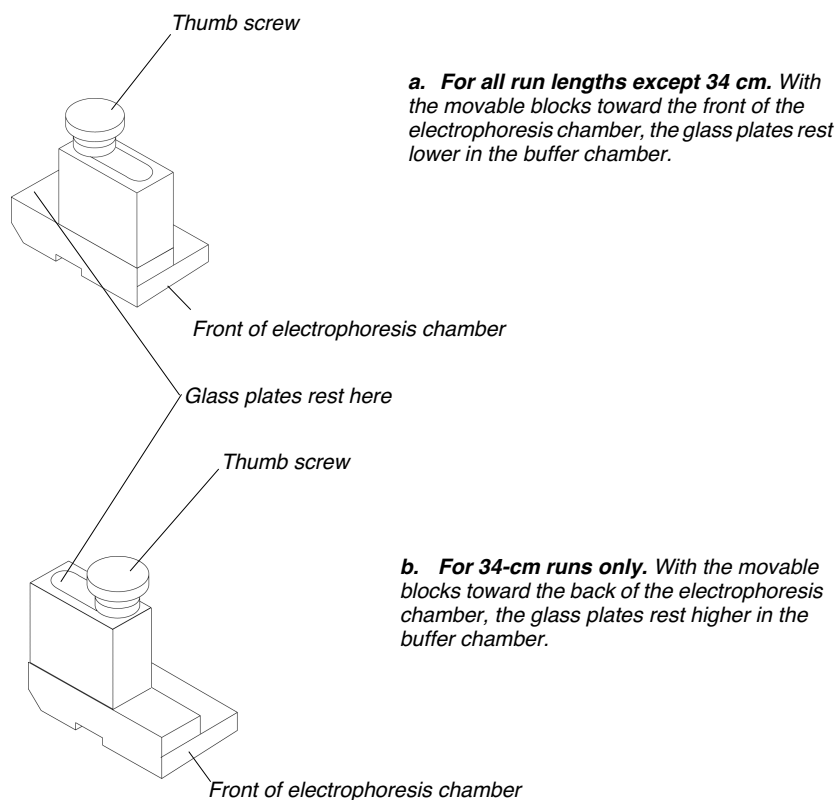

Figure 3-6. Adjustable gel plate rests
4. Adjust the gel plate rests in the lower buffer chamber, if necessary (see Figure 3-6). The gel plate rests are located in the bottom of the buffer chamber and serve to elevate the glass plates. The 34-cm plates must sit higher in the buffer chamber to rest in the correct position. All other plates rest in the lower position.
Each gel plate rest consists of several parts, a large ABS block on the bottom, a shorter ABS block on top of it, and an adjustable thumb screw. When the thumb screw is loose, the small block can be moved forward and back, so that the plates rest either on one block, or on two blocks (see Figure 3-6).